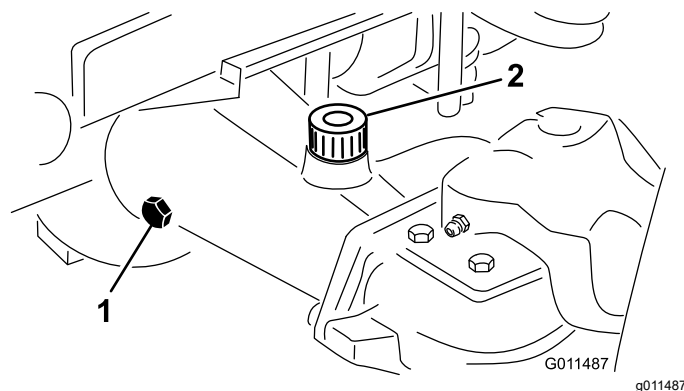

Figure 107
2. Remove a check plug from the end of the axle and ensure that the lubricant is up to the bottom of the hole (Figure 107).